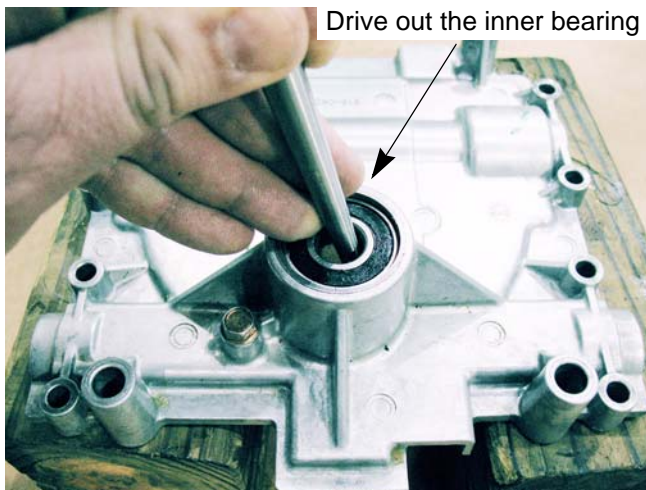

Figure 6.45
19. Inspect the bearings. If they are worn or rough, carefully drive the inner bearing out of the upper housing using a pin punch and hammer. See Figure 6.45.